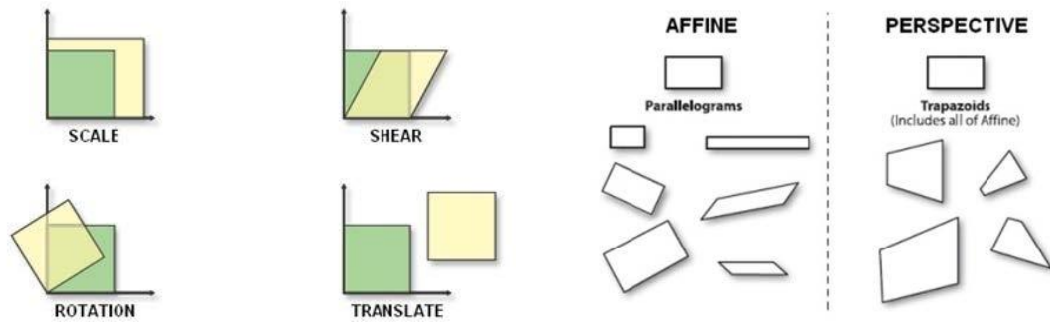

Figure 115: Transformation Types
- ❖ **Correlated transformation type** – Specifies parameters that are correlated. The precise meaning of the terms used in these descriptions can also be found depicted in Figure 115. To avoid problems during computation, the transformation type should be estimated according to the expected movement of the measured specimen. Can be set to one of the following options: